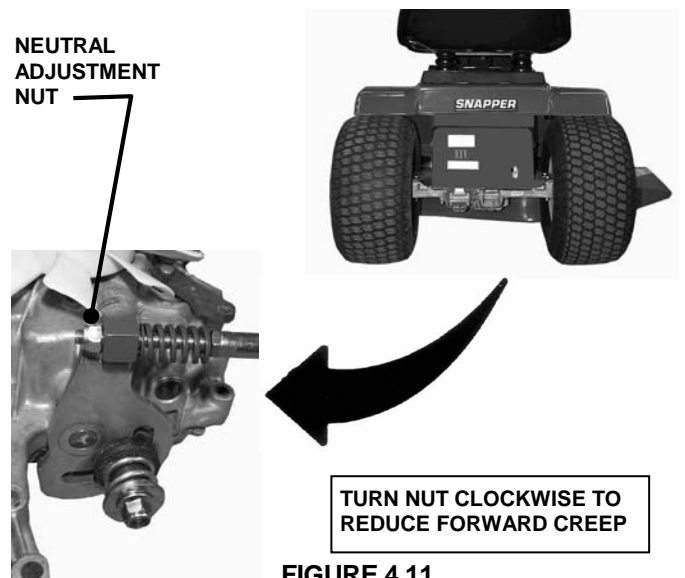

FIGURE 4.11
3. Locate neutral adjustment nut underneath the right rear of the tractor. See Figure 4.11.